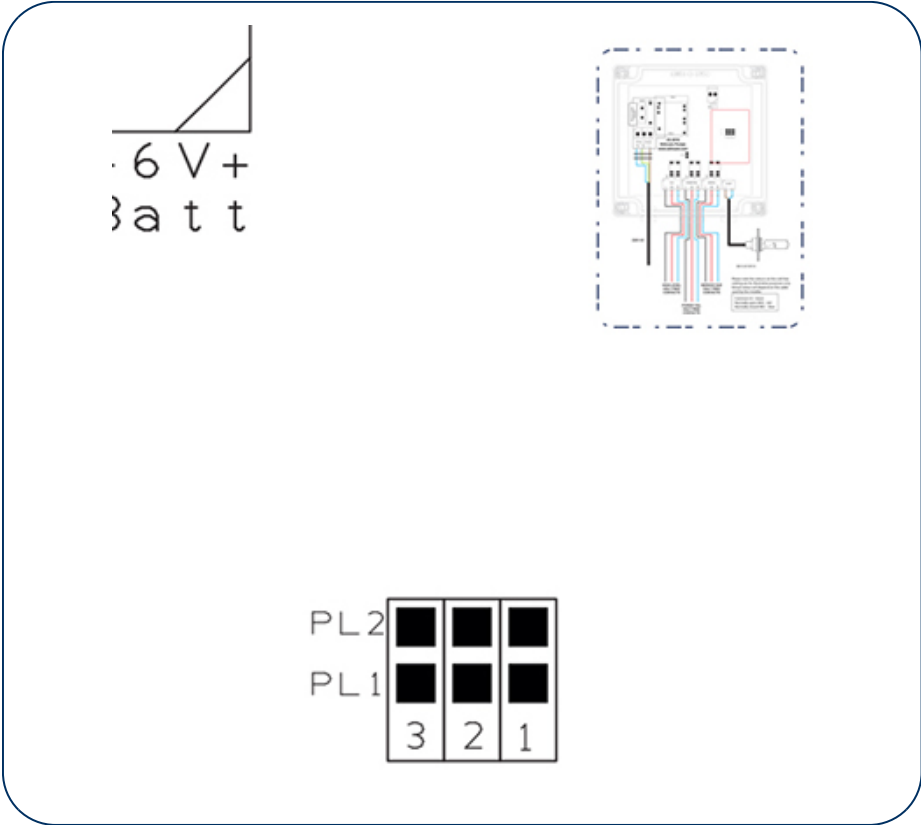

Fig.8 Setting the jumpers for the service interval
The service interval is factory set to yearly. To change to quarterly or half yearly please change the jumper settings on the PCB using the information, as shown in fig.8.
- You will have the option to set the service reminder intervals. The service reminder intervals will be changeable via a series of jumper positions, as shown in fig.8 setting the jumpers.